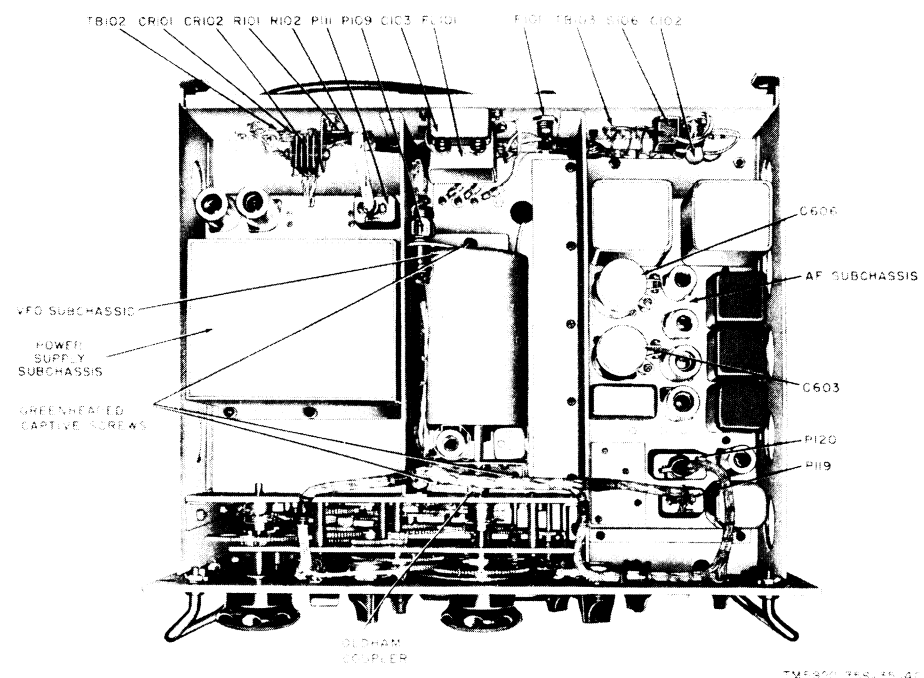

Figure 37. Radio Receiver R-390A/URR, bottom view.
- (1) Short circuits in the tube heater and/or oven circuits usually blow the AC 3 AMP fuse on the rear panel on the receiver. Disconnect all power plugs except P111 (fig. 37) from the power-supply subchassis and apply ac power to the receiver. Turn the FUNCTION switch to STAND BY. If tubes V801 and V802 in the power-supply subchassis light and fuse F101 does not blow, the trouble is in one of the other subchassis. If the fuse blows, the trouble is in the power-supply subchassis or main-frame wiring. Follow the procedure in (2) below for locating the tube filament or oven short.
- (2) Remove all tubes and the power plug from the subchassis to be